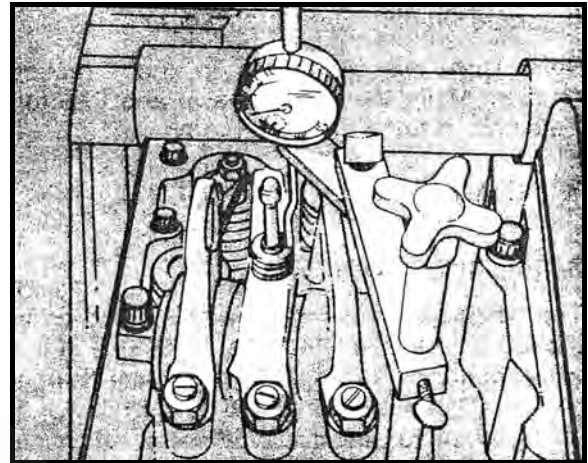

Fig. 2-27 Dial indicator extensions in contact with plunger
2. Set up 3375004 Dial Indicator and support so that the extension sets on top of the injector plunger (Fig. 2-27). Make sure the indicator extension is installed in the indicator stem properly and is not touching the rocker lever.